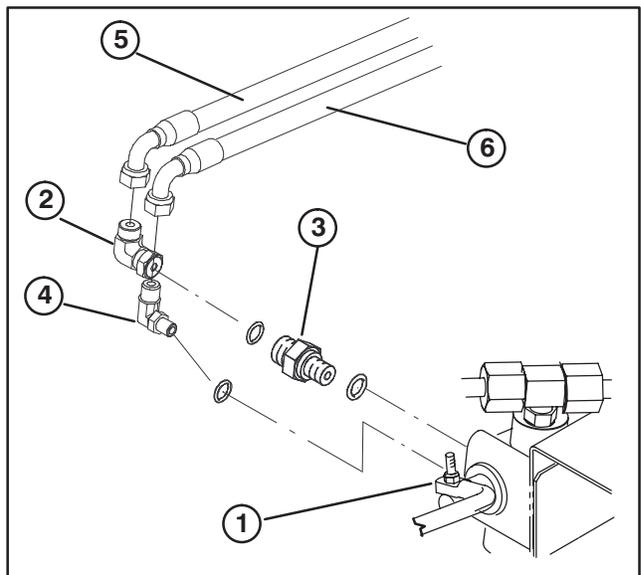

Figure 22
37. Loosely thread 90° fitting into front port on side of auxiliary valve (Fig. 22).
38. Thread adapter fitting into rear port on side of auxiliary valve (Fig. 22).
39. Loosely thread 90° fitting into rear adapter fitting on side of auxiliary valve (Fig. 22).
40. Mount 90° fitting end of hydraulic hose to adapter fitting on side of auxiliary valve (Fig. 22). Route hose rearward, along left side of frame and in front of PTO (if so equipped) to straight fitting in lower coupler. Direct end of hose with 45° fitting towards right side of frame away from transaxle. Route hose away from any hot or moving parts. Secure hose fittings.
41. Mount 90° fitting end of hydraulic hose to 90° fitting in auxiliary valve (Fig. 22). Route hose rearward, along left side of frame and in front of PTO (if so equipped) to straight fitting in upper coupler. Direct end of hose with 45° fitting towards right side of frame away from transaxle. Route hose away from any hot or moving parts. Secure hose fittings.